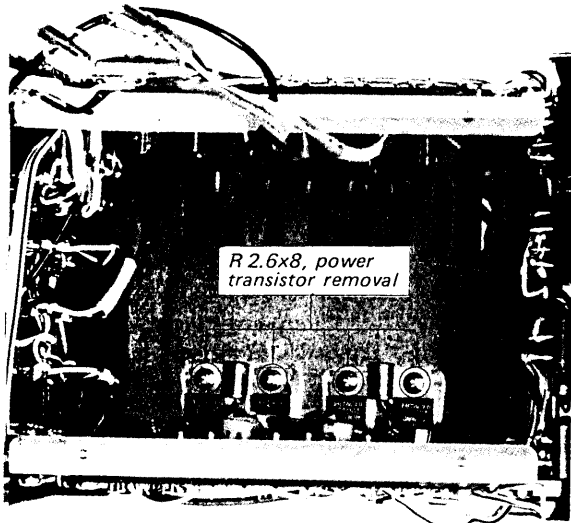

Fig. 2-7. Power transistor removal
4. Remove the four screws securing the power transistor to the heat sink shown in Fig. 2-7.